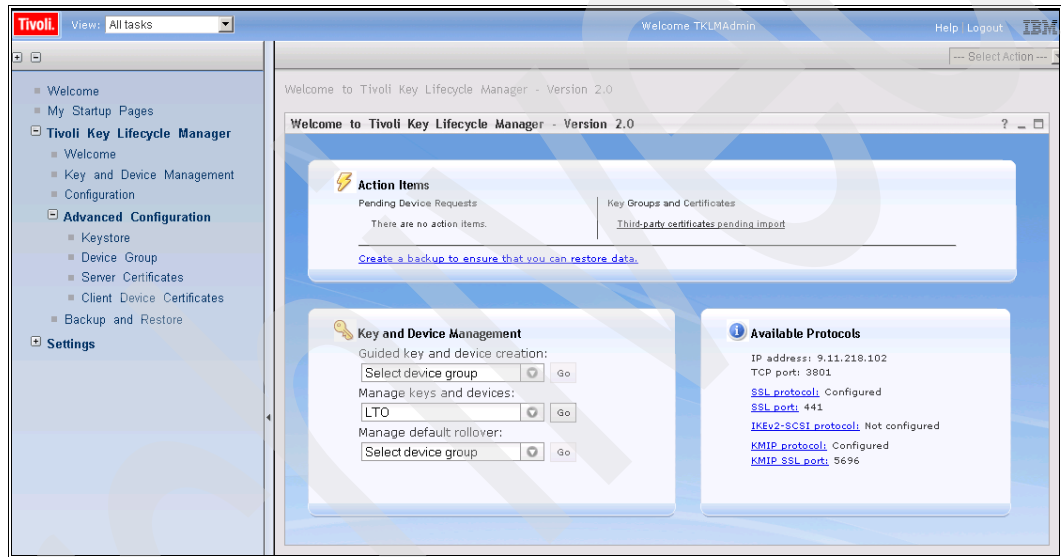

Figure 9-40 Welcome panel with key group selected
2. On the Welcome panel select the device from the **Manage keys and devices** drop-down box and click **Go** (Figure 9-40).